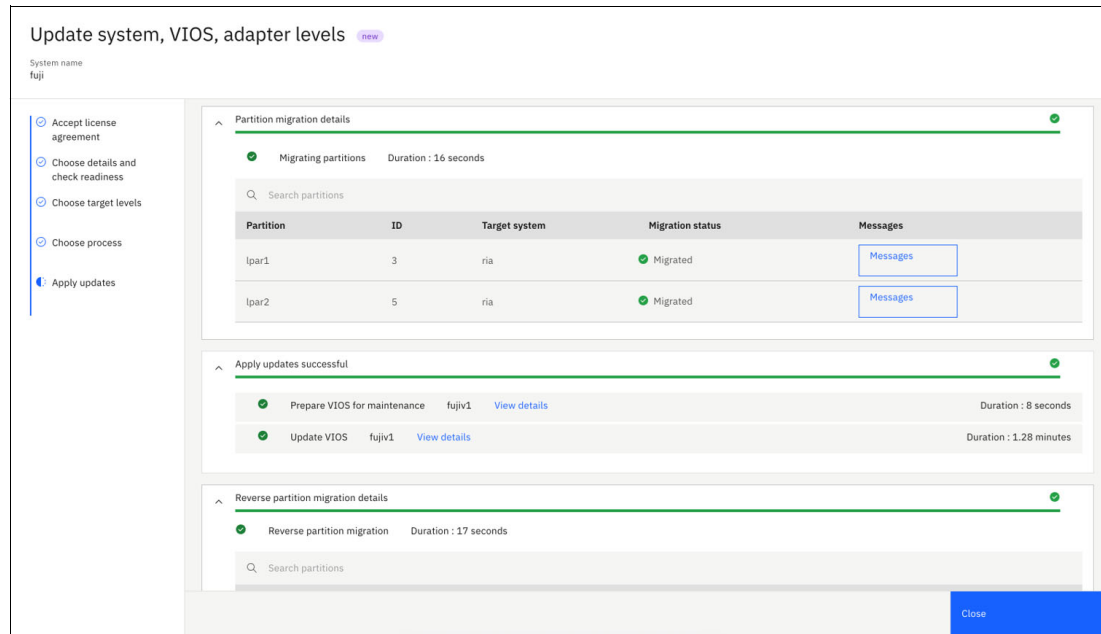

Figure 5-6 Figure 5 – Update status
5. Verify the results (Figure 5-6).